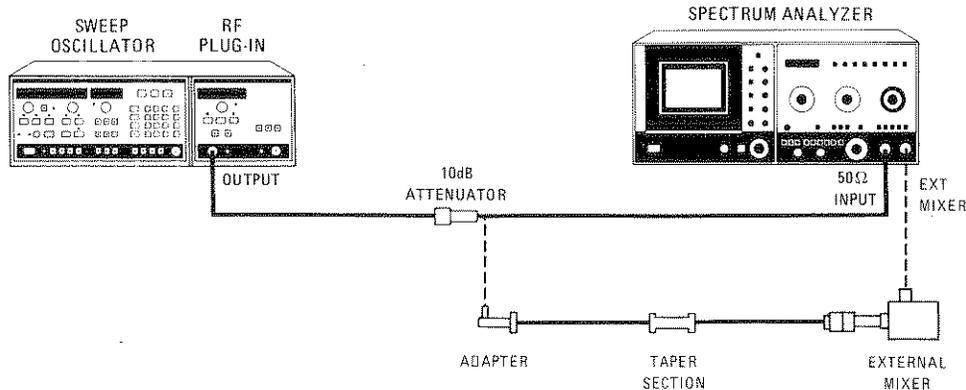

Figure 4-9. Spurious Signals Test Setup
1. Connect equipment as shown in Figure 4-9.